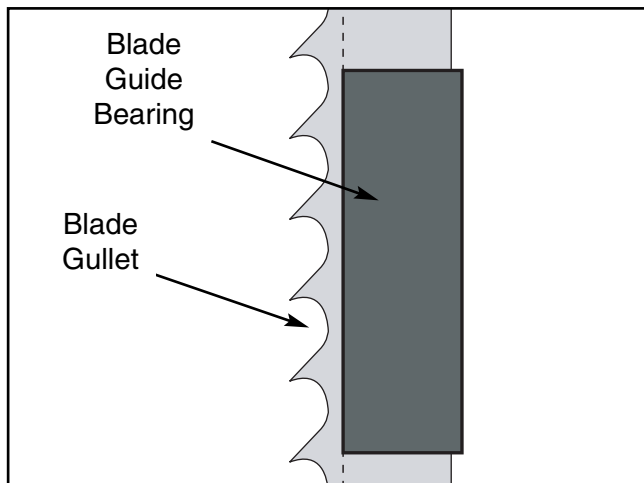

Figure 25. Correct blade guide position.
3. Position the blade guides so that the edges of the bearings are just behind the blade gullets as illustrated in **Figure 25**.